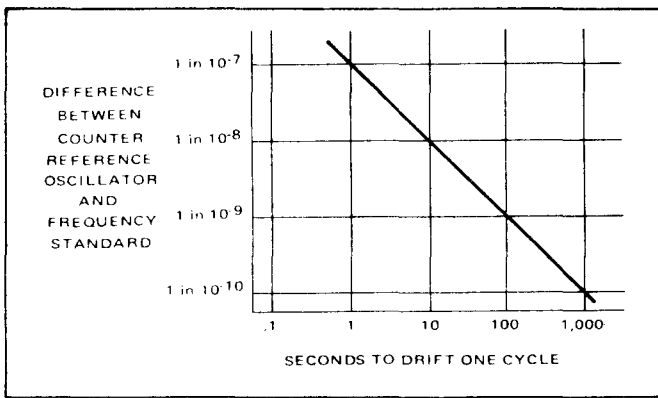

Figure 2.6 - Oscillator Drift
- g. To determine the drift rate of the calibrated instrument, measure the time it takes the oscilloscope pattern to drift 5 divisions on the oscilloscope. The oscilloscope drift can be determined from figure 2.6.